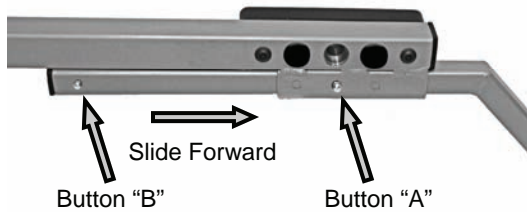

Fig. 8
- Remove the anti-tip levers from the base frame by depressing the position setting push button "A" (fig. 8) and sliding forward as far as possible. Press the retaining button "B" at the end of the anti-tip and slide completely out of the base frame.